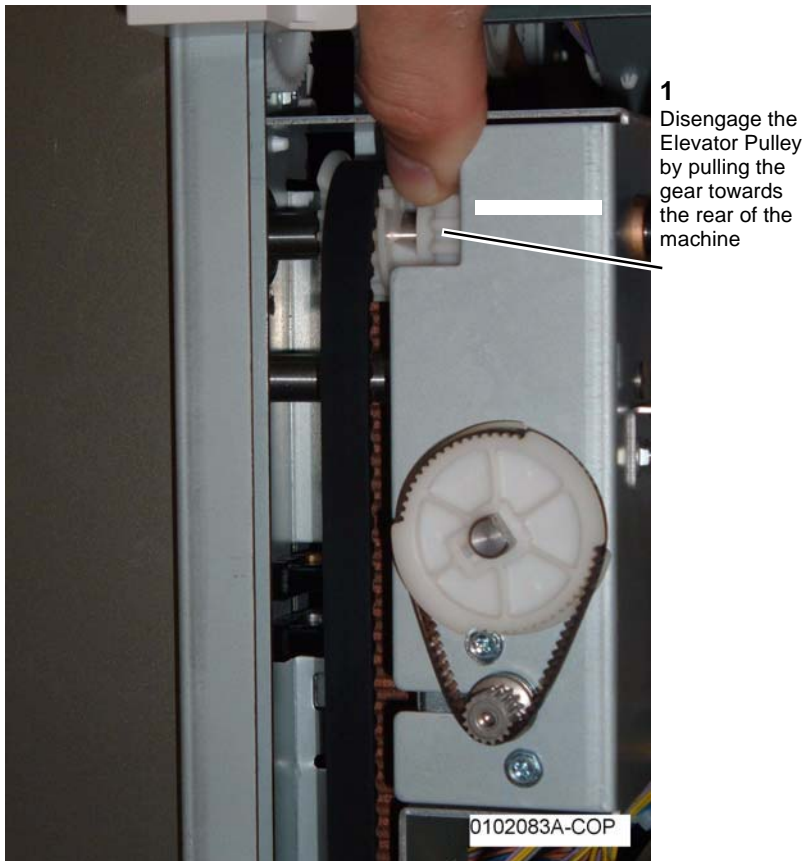

Figure 1 Disengaging the Elevator Pulley
4. Disengage the Elevator Pulley (Figure 1).